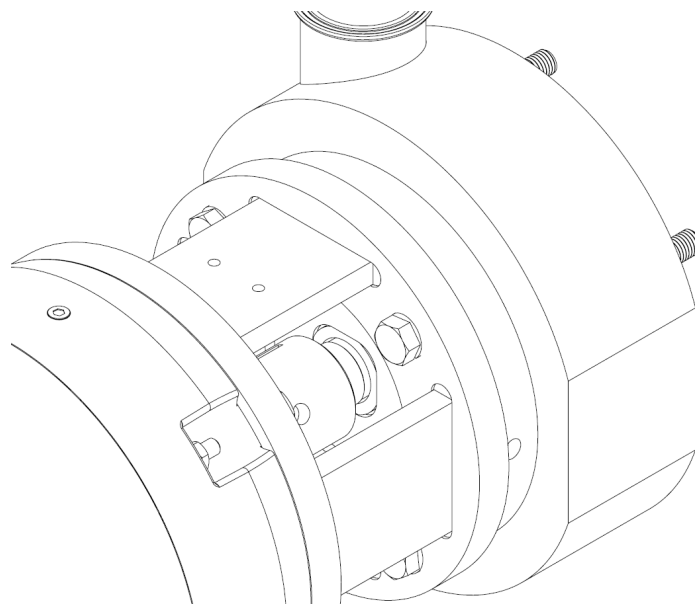

Figure 13
5. Line up a flat on the stationary seal to a flat of the window of the casing and gently press the stationary seal into the casing bore. Food grade lubrication on the stationary seal O-ring(s) may be required. See Figure 13.